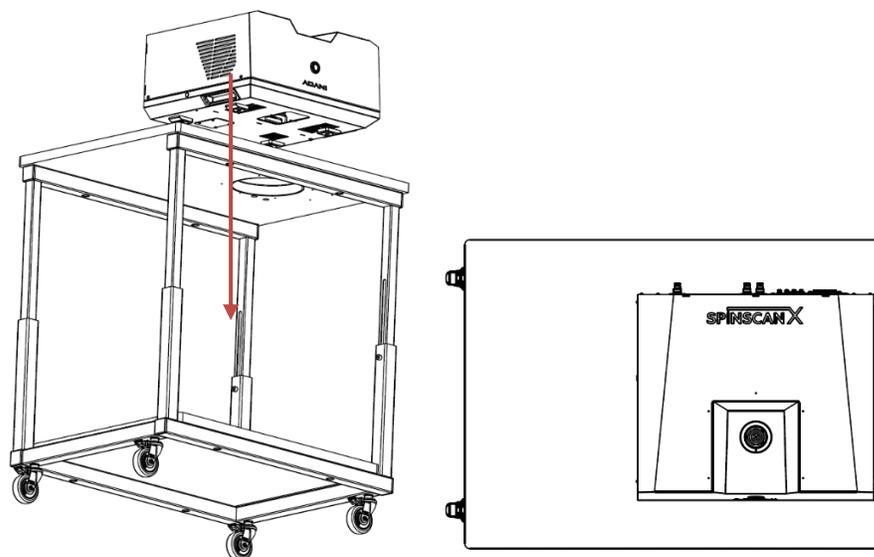

Figure 2 – Spectrometer positioning
2. Place the spectrometer on the desk. The spectrometer sample opening should be adjusted in such a way to be in the middle of the countertop hole position. Fig 2.